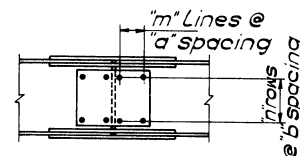

Figure 1
3. For use with the AASHO specifications, the ordinate (M_s') and abscissa (V) values are for $7/8$ -in. dia. ASTM A325 bolts having an allowable double shear value (R) of 16.24 kips.
4. For use with the AISC Specification, alternate scales for the ordinate and abscissa are provided. These scales generalize the curves so that they can be used for any bolt size or bolt strength if the applicable double shear value (R) is substituted in the ordinate (M_s'/R) and abscissa (V/R).
5. Dimensional nomenclature is shown in Fig. 1.
Refer to Fig. 1. Assume $m = 4$ and let eccentricity $e = 6.5$ in. for this case.